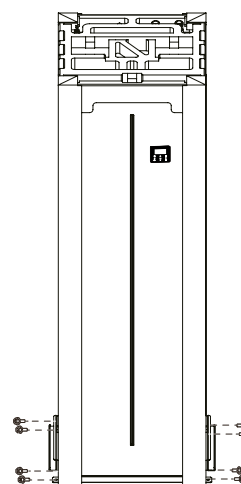

Fig.6-5
- Remove the 8 screws of the sheet metal and remove the sheet metal(Refer to Fig.6-5).